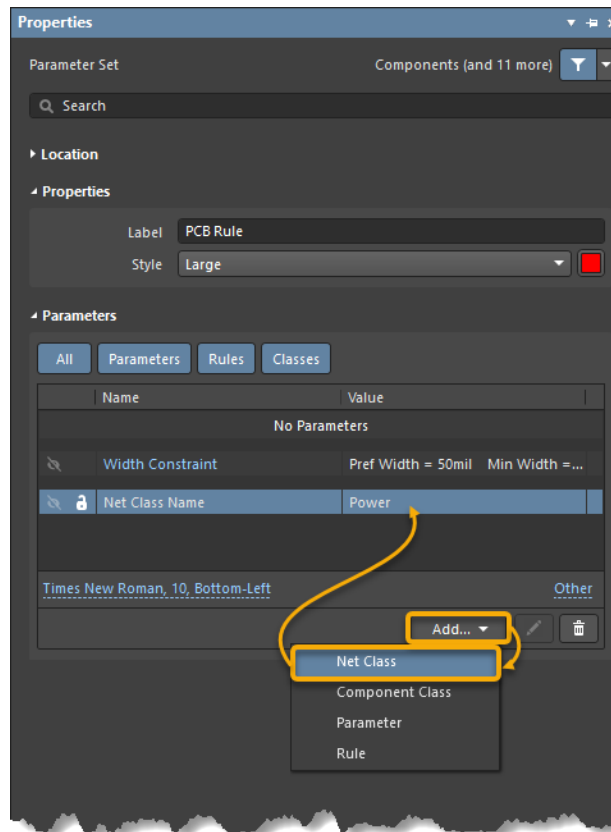

Figure 10. Adding Net Class from the schematic
- g) Still in the *Properties* panel, Figure 10: